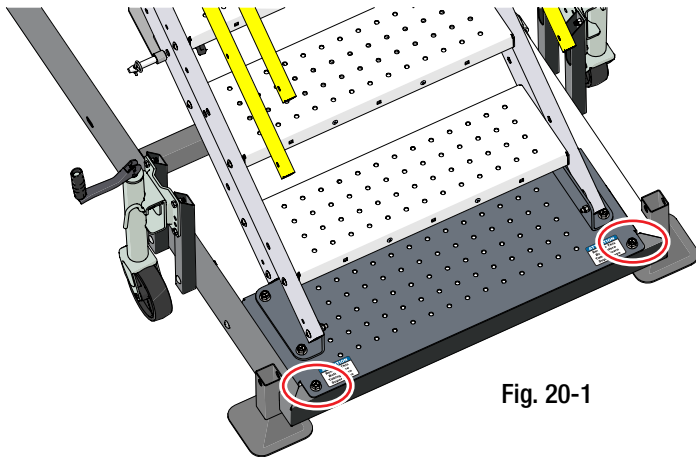

Fig. 20-1
2. Remove the two bolts on the swing plate attached to the transport pallet. As shown below in Fig. 20-1 & 2.